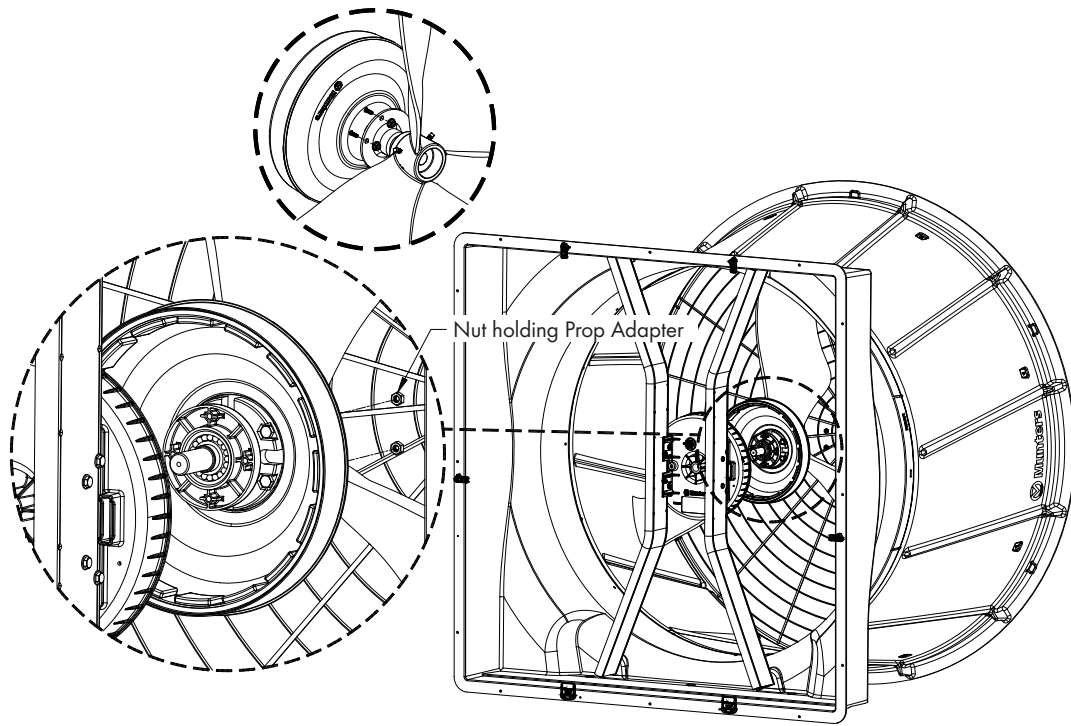

Figure 9
Secure the Hub and New Rotor to the Prop Adapter using the (4) Nuts removed in Step 6 and tighten to 200 in-lbs. [23 N-m] of torque. See Figure 9.